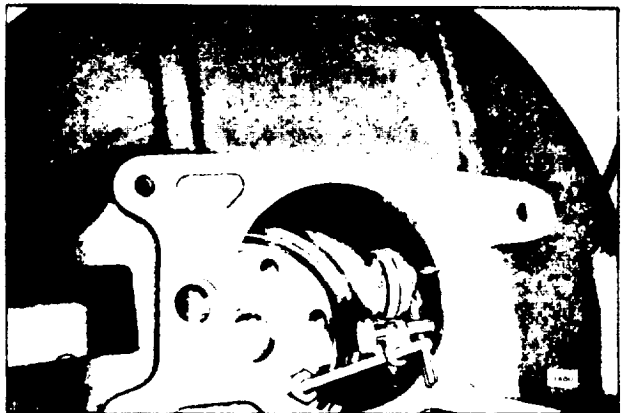

Fig. 10 Checking Bore Runout
- b. Install the dial indicator J 8001-3 and position it to read the bore run-out of the housing (Fig. 10). Now check the run-out by rotating the crankshaft. The run-out should not exceed .008".